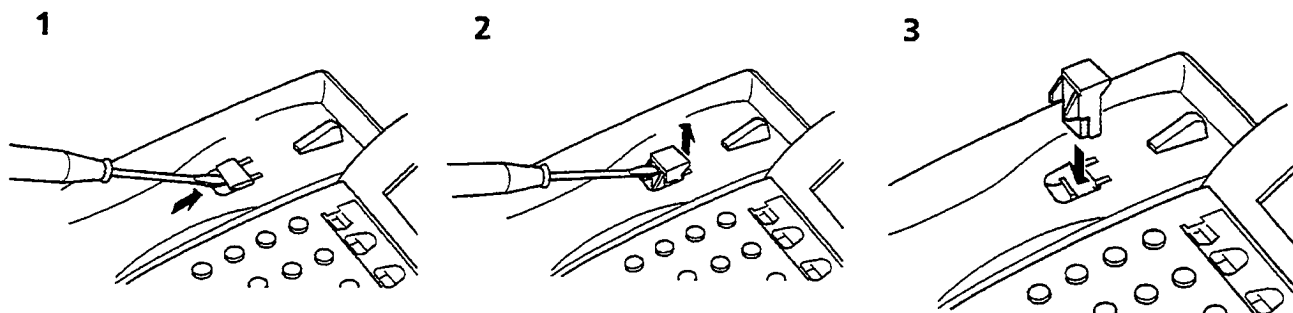

Figure 1-59 Position Handset Hanger
1. Slide the hanger out of the slot. Place it back in its original position so that the hanger protrudes providing a rest for the handset. (This procedure applies when using either the base unit or the WMU-U Unit.) Refer to Figure 1-59 Position Handset Hanger for the steps to remove and remount the handset hanger.